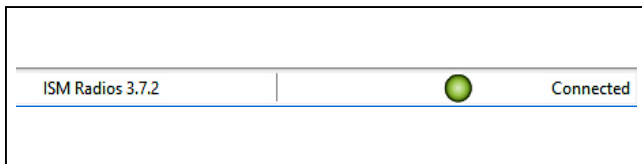

Figure 8. Connected, Indicators at Bottom of GUI
- from “ISM Radios x.x.x” to “ISM Radios 3.7.2” or later, the software LED is lit green, and the port status is noted as “Connected” (Figure 8).
After properly connecting to the COM port with the FTHR board, the GUI displays the revision of FTHR board firmware detected, display a **Green** “LED”, and display “Connected” in the status bar along the bottom of the GUI window. (See Figure 8.)